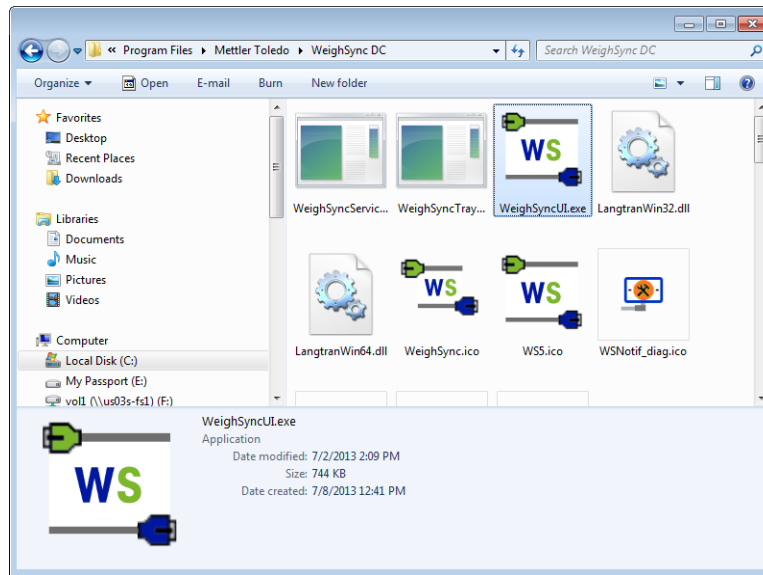

Figure 1-9: WeighSync Program File Folder
- By running the .exe file from the Program Files\Mettler Toledo\WeighSync DC\ subdirectory (Figure 1-9).